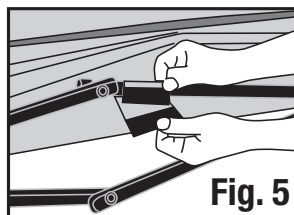

Fig. 5
- Secure shelter top to frame with hook & loop fasteners provided. (Fig. 5 & 6)